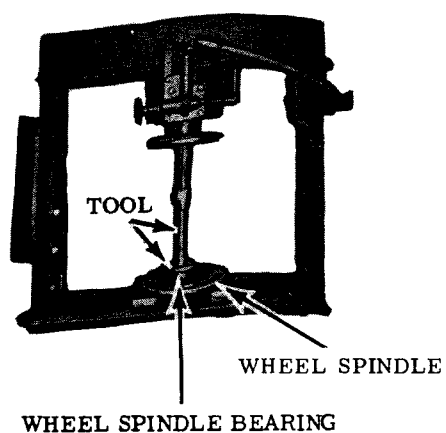

Figure 42. Installing bearing in wheel spindle.
- (1) Bearing replacement. Position the wheel spindle in a press with the spindle portion facing down. Place a heavy washer or suitable tool that is slightly smaller than the bore in the steering knuckle. Press on the washer or tool to remove the bearing. Place a new bearing in the wheel spindle. Using a suitable stop, press the bearing in the spindle (fig. 42) until bearing is seated. Remove all rough edges from edge of bearing with a bearing scraper.
- (2) Bearing cone replacement. Start the bearing cone off the trunnion by carefully driving a chisel between the cone and trunnion socket to provide room for a puller. Remove the bearing cone with a suitable puller. Press a new bearing cone on the trunnion, being careful to exert pressure on the inner race only.